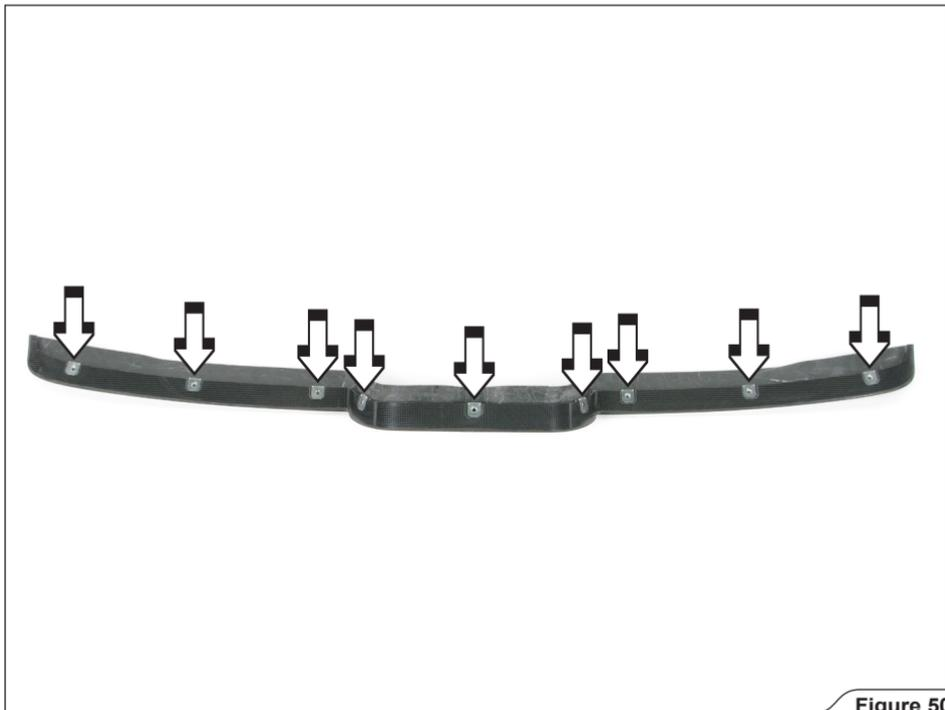

Figure 50
3. Install the nine Akrapovič M5 press on nuts onto the carbon fiber lip (**Figure 50**).